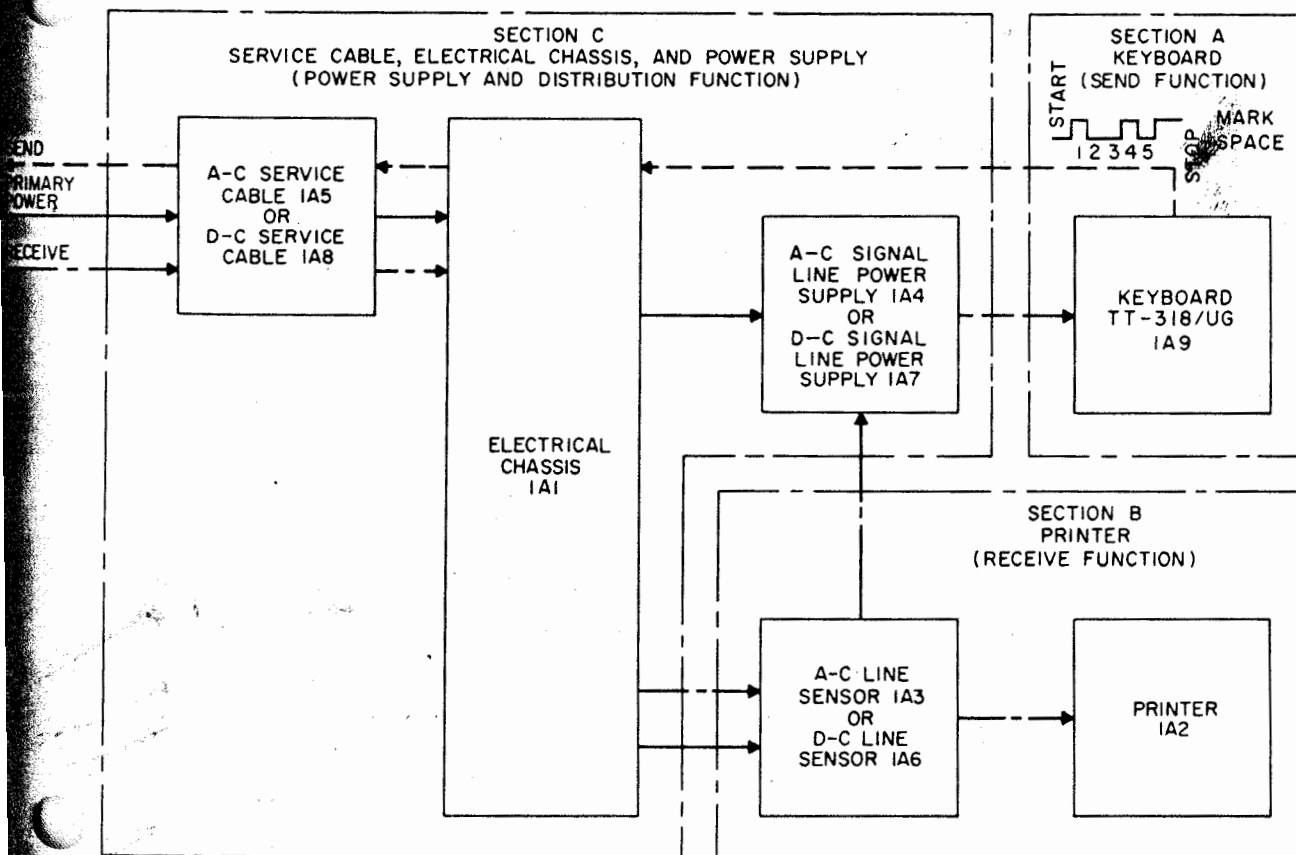

Figure 4-1. Teletypewriter Set AN/TGC-14(V), Functional Sections
a. GENERAL. — Figure 4-1 is a simplified block diagram showing the functional arrangement of the major assemblies of the teletypewriter set. For operation on a-c primary power, a-c service cable 1A5, a-c signal line power supply 1A4, and a-c line sensor 1A3 are employed. For d-c operation, these